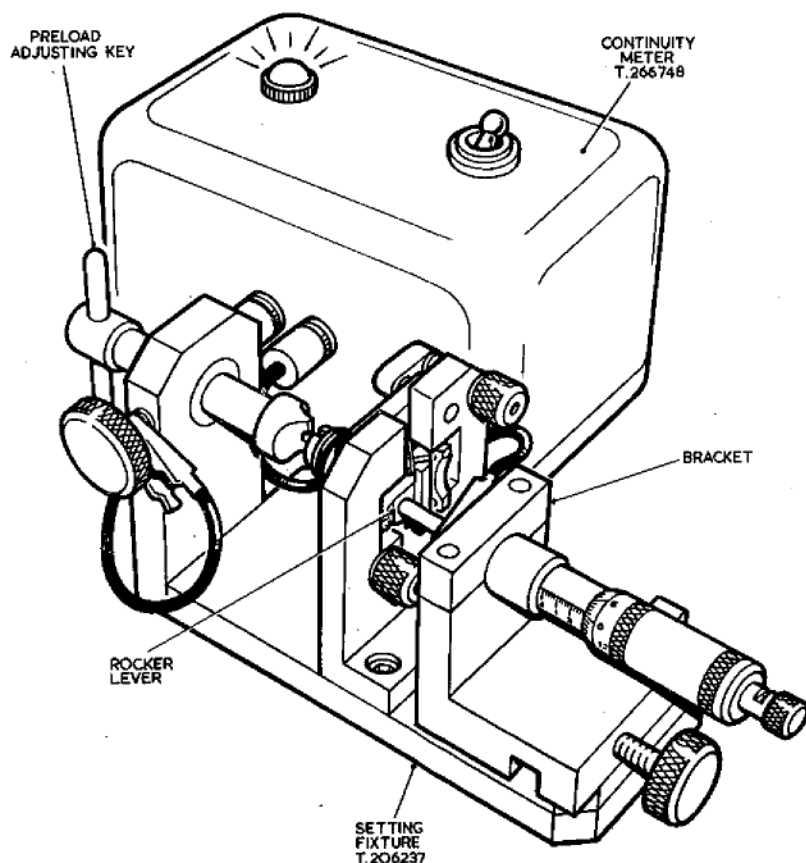

Fig. 4. Setting the rocker lever pre-load
21. Mount the assembly on the preload setting fixture T 206237, fig. 4 and position the insulating bracket and micrometer attachment over the rocker lever bowl and lock the bracket in position. The contact faces of the rocker lever and the micrometer should be perfectly clean and dry.